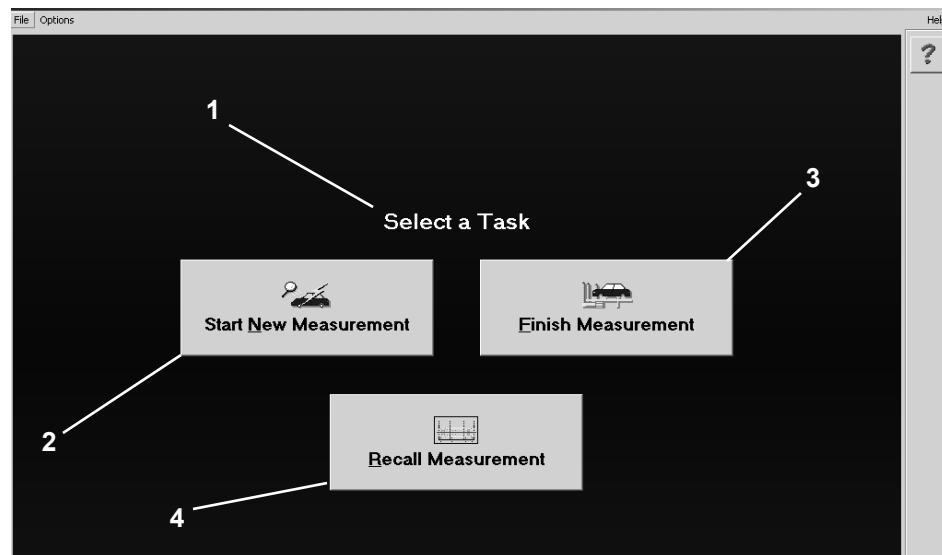

Figure 37
When the Vector 'Title Screen' (opening window) is displayed (see Figure 37), the 'booting up' procedure is complete.
**NOTE:** On computer systems running Windows XP, Windows 2000, Windows NT 4.0 or higher, the VectorTitle Screen will appear as shown in Figure 37.